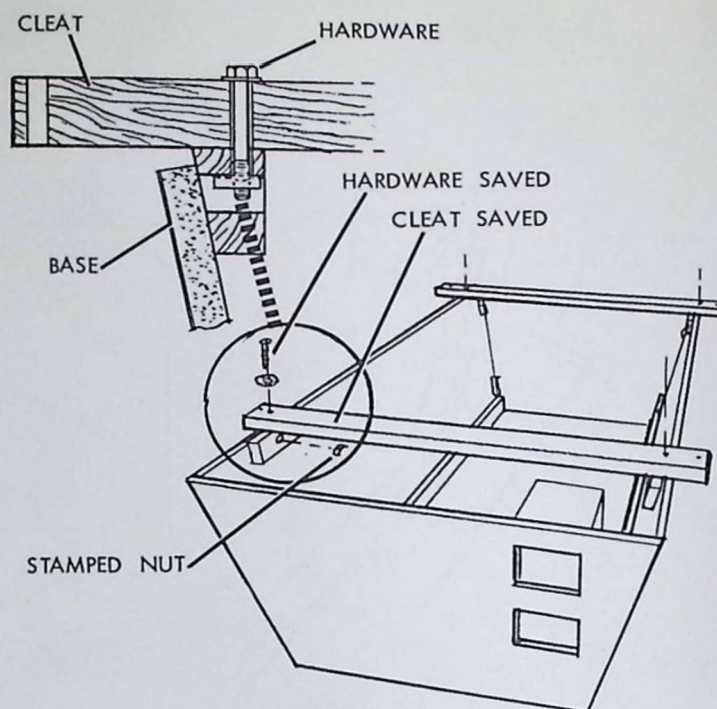

FIGURE 7
9. Attach the cleats that were removed from the bed and apron assembly to the top of the base frame assembly. (Figure 7)
10. Use the bolts and flat washers that were removed from the bed and apron assembly, along with four (4) round stamped nuts in hardware package. (Figure 7)